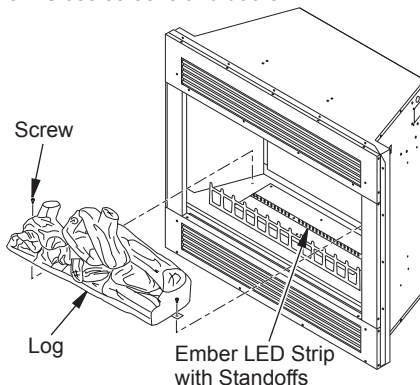

Figure 13 - Removing Log and Ember LED
4. Remove screws securing each side of log to brackets (see Figure 13).
2. Locate ember LED strip (see Figure 13, page 9). Disconnect wire (right side).
3. Remove screws securing each side of log to brackets (see Figure 13, page 9).